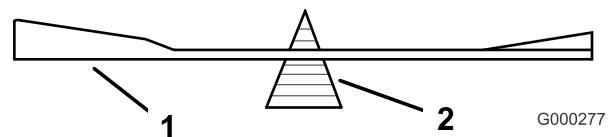

Figure 68
2. Check the balance of the blade by putting it on a blade balancer (Figure 68). If the blade stays in a horizontal position, the blade is balanced and can be used. If the blade is not balanced, file some metal off the end of the sail area only (Figure 68). Repeat this procedure until the blade is balanced.